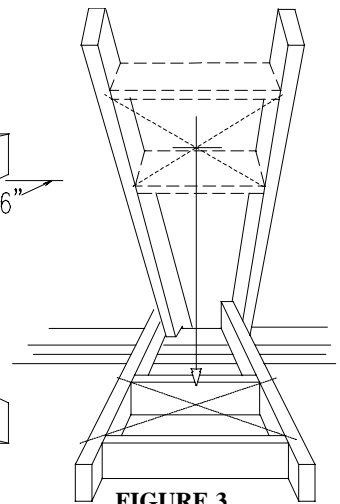

FIGURE 3
3. Hold a plumb bob from the underside of the roof to determine where the opening in the roof should be. Cut and frame the roof opening to maintain proper 1" clearances. **FIGURE 3**